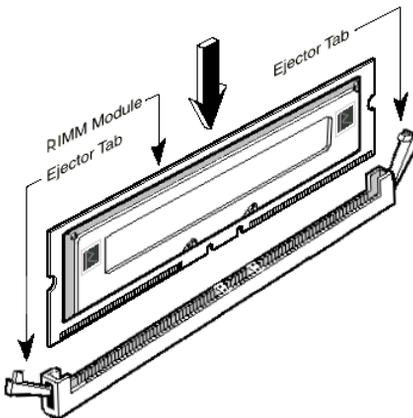

Figure 2-5 Memory module installation
**Step 5.** Insert the RIMM module into the expansion socket as shown in the illustration. Note how the module is keyed to the socket. You can refer to figure 2-5 for the details. This insures the RIMM module will be plugged into the socket in one way only. Firmly press the RIMM module into the RIMM socket, making certain the module is completely seated in the RIMM socket.